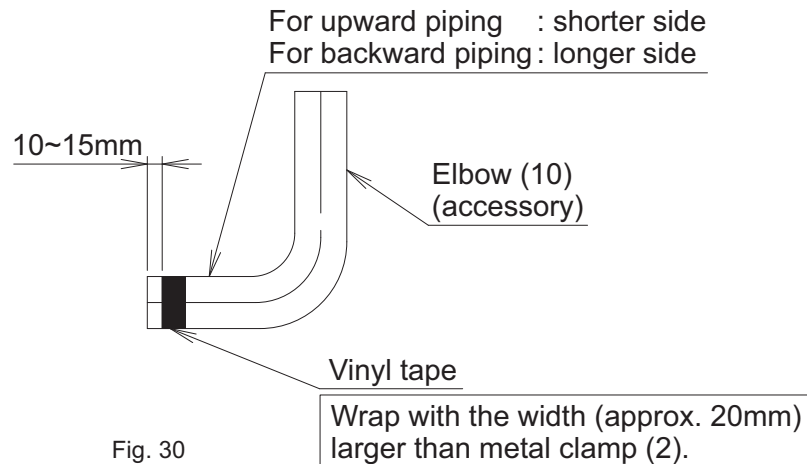

Fig. 30
- Make sure to use the drain hose (1), the elbow (10) and the sealing material (Large) (8) attached to the indoor unit as accessories.
1. To prevent the elbow from getting damaged by the metal clamp (2) for upward and backward piping, wrap the vinyl tape around the elbow 2 to 3 times so that the tape covers more than the width of metal clamp (2) leaving 10 - 15 mm from the tip of the elbow (10) without wrapping as shown in **Fig. 30**.